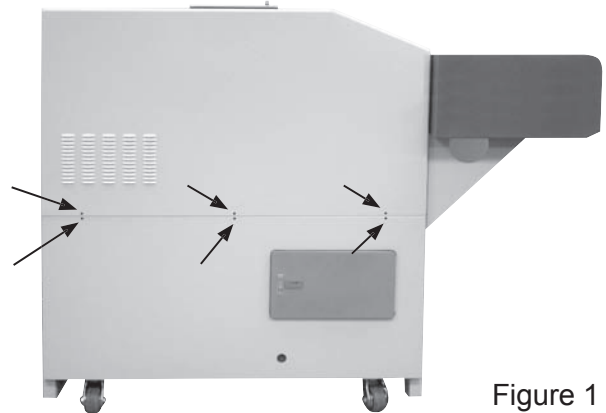

Figure 1
1. To remove covers, insert screwdriver through access holes (Fig. 1), and remove screws. Lift covers off frame hooks.